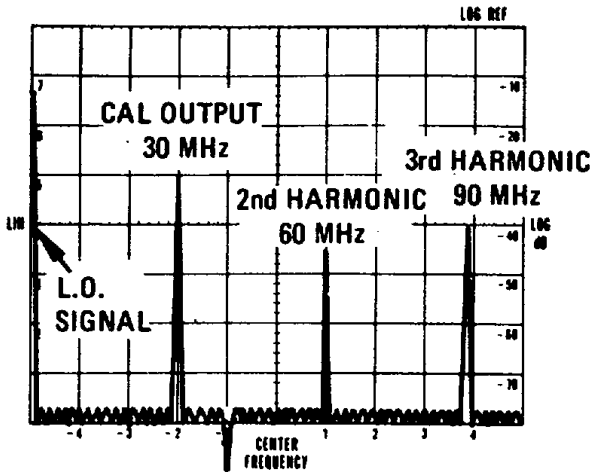

Figure 4-1. 30 MHz Calibrator Signal and Harmonics
**4-15.** Connect CAL OUTPUT to RF INPUT using a BNC-to-BNC cable. The analyzer CRT display should be similar to that shown in Figure 4-1.
- b. Adjust HORIZONTAL POSITION so display is centered on CRT. Then adjust HORIZONTAL GAIN until the displayed scan width is exactly 10 divisions. Some interaction between HORIZONTAL POSITION and GAIN may occur, requiring slight readjustment of the controls. The display on your CRT should now match Figure 4-1 almost exactly. (The amplitudes of the individual signals may be slightly different.)